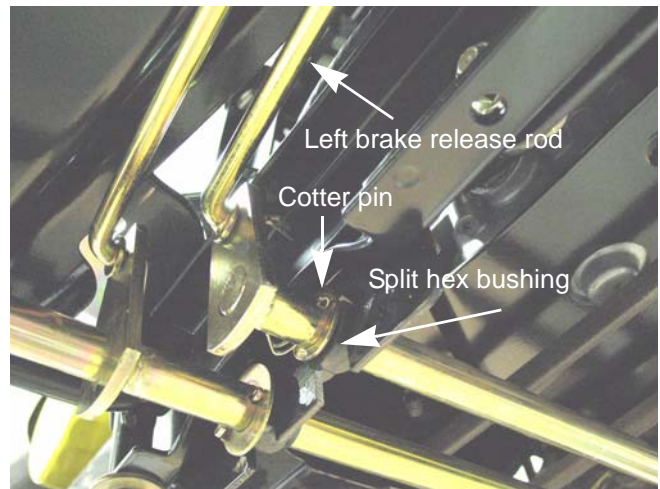

Figure 5B.60
13. Install a new cotter pin. See Figure 5B.60